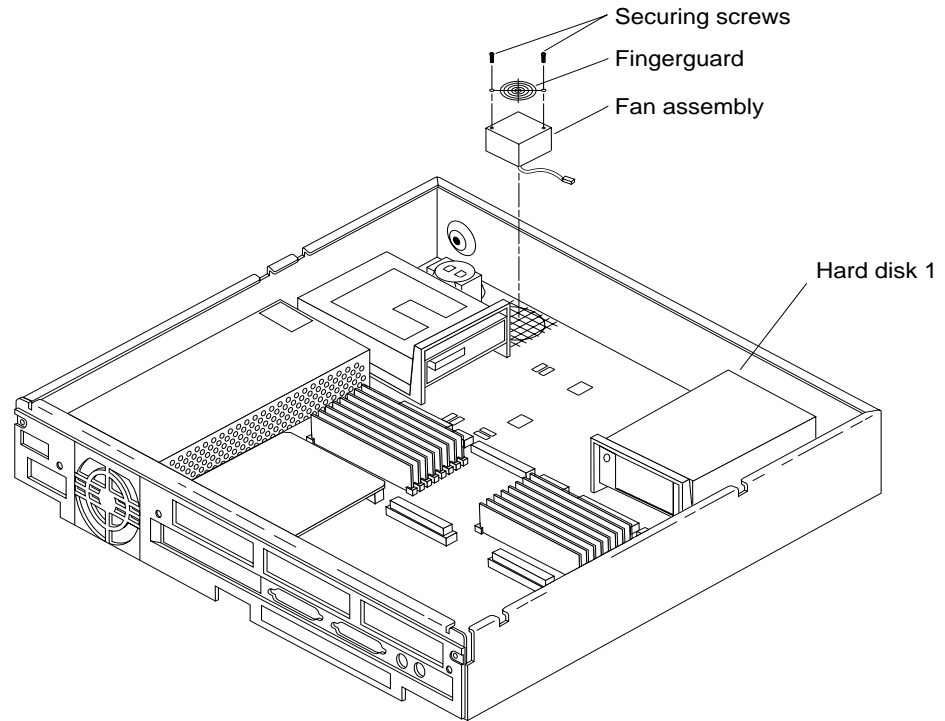

Figure 4-18 Removing and Replacing the Fan Assembly
Each SPARCstation 2 contains two fan assemblies. One of them is built into the power supply. Although the power supply is a field replaceable-unit, the fan assembly resides in the power supply itself is not a field replaceable-unit. See "Power Supply" earlier in this Chapter. The other fan assembly is located at the front right side of the chassis, next to the diskette drive and the system speaker (see Figure 4-18). This fan assembly is a field replaceable unit.
- 6. Remove both screws from the fan assembly (Figure 4-18).**
- 7. Remove the fingerguard (Figure 4-18).**
The locator on the chassis makes sure that the fan is oriented the correct way (Figure 4-18).
- 4. Install both screws through the fingerguard, fan assembly and the chassis (Figure 4-18).**